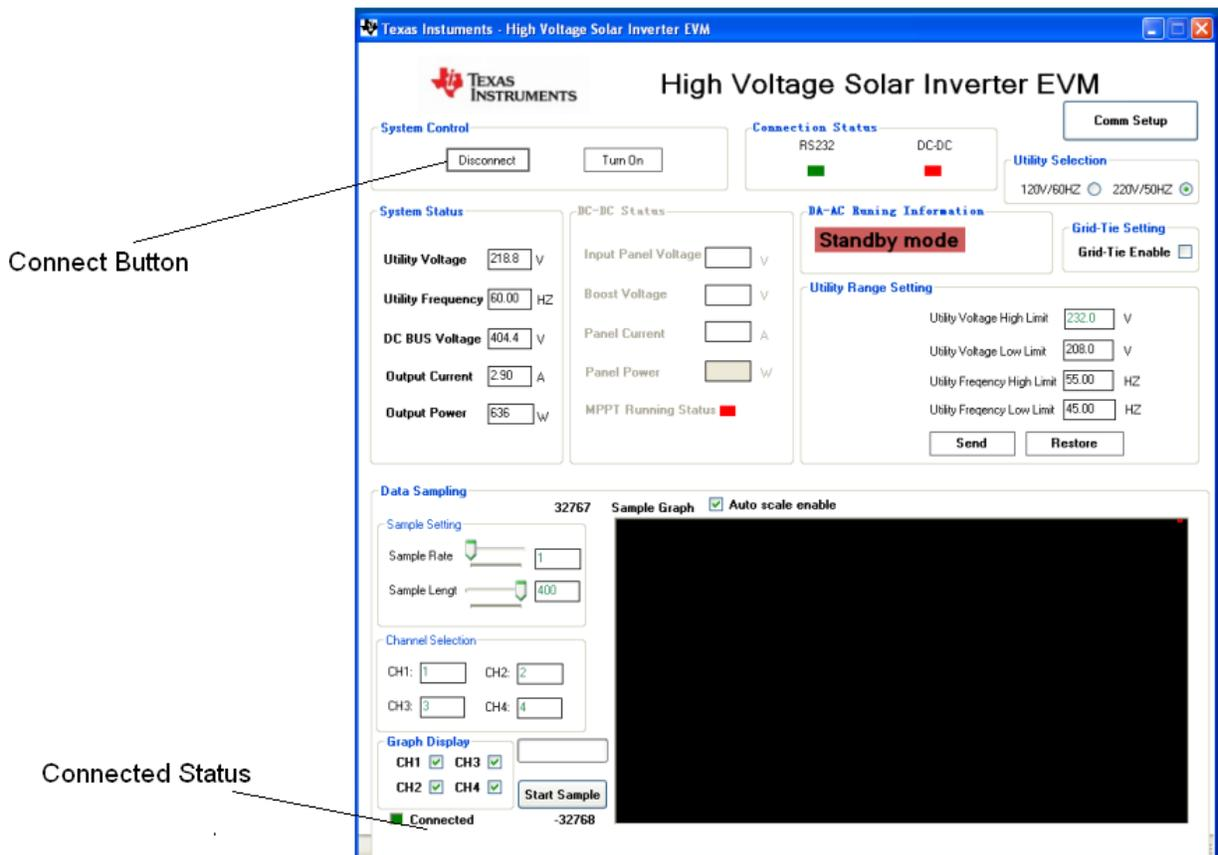

Figure 6. HV Solar Inverter GUI Connection
3. Connect the system and the GUI by clicking the *Connect* button (see Figure 6).